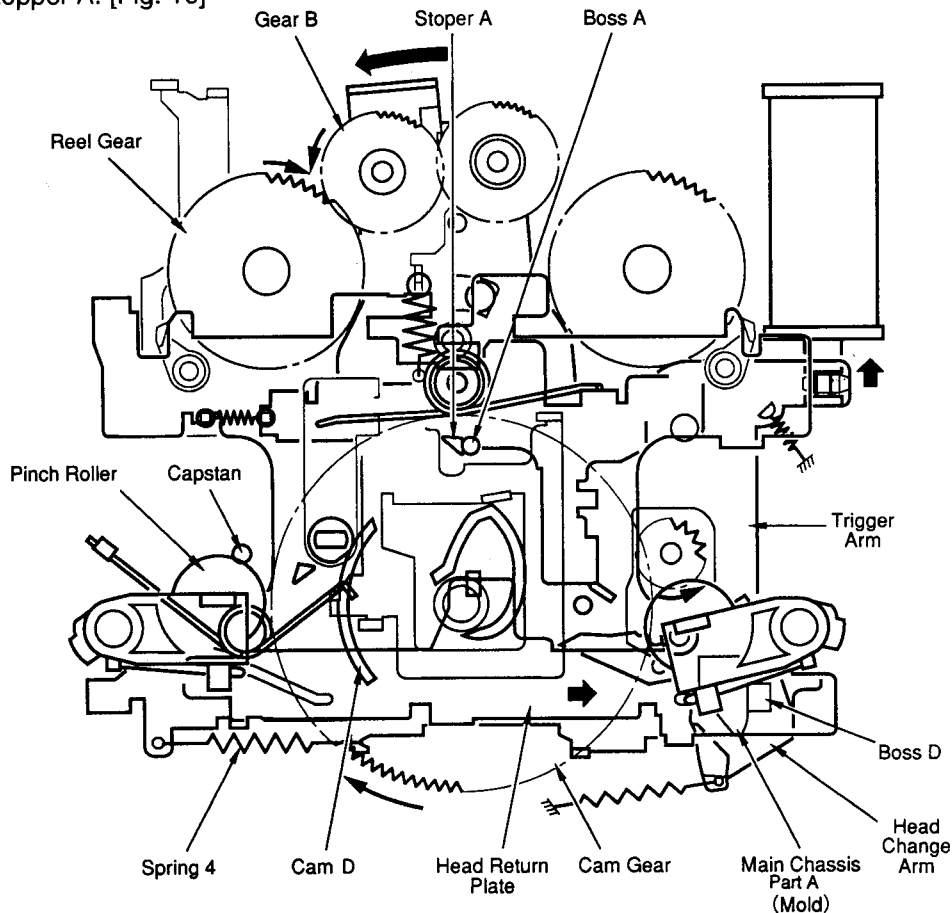

FIG. 10
2. After 300 ms, SOL is turned ON for 205 ms. Boss A of the tip of the trigger arm comes apart from the cam gear's stopper A. [Fig. 10]